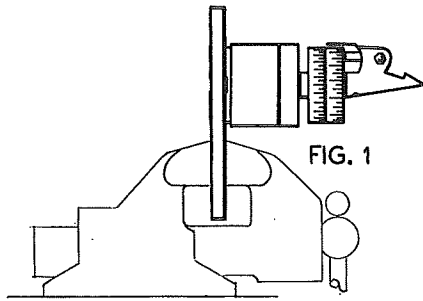

FIG. 1
1. Place gage against a known plumb reference point, such as a 1/4" thick plate of steel clamped in a vise and leveled vertically (see fig. 1). Be sure surface of steel plate and magnet are clean.